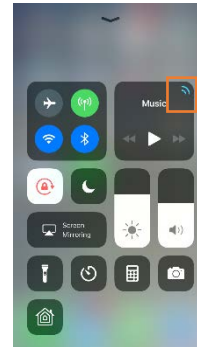

Figure 14
1. Swipe up from the bottom of the screen to open the Control Center (Figure 14).